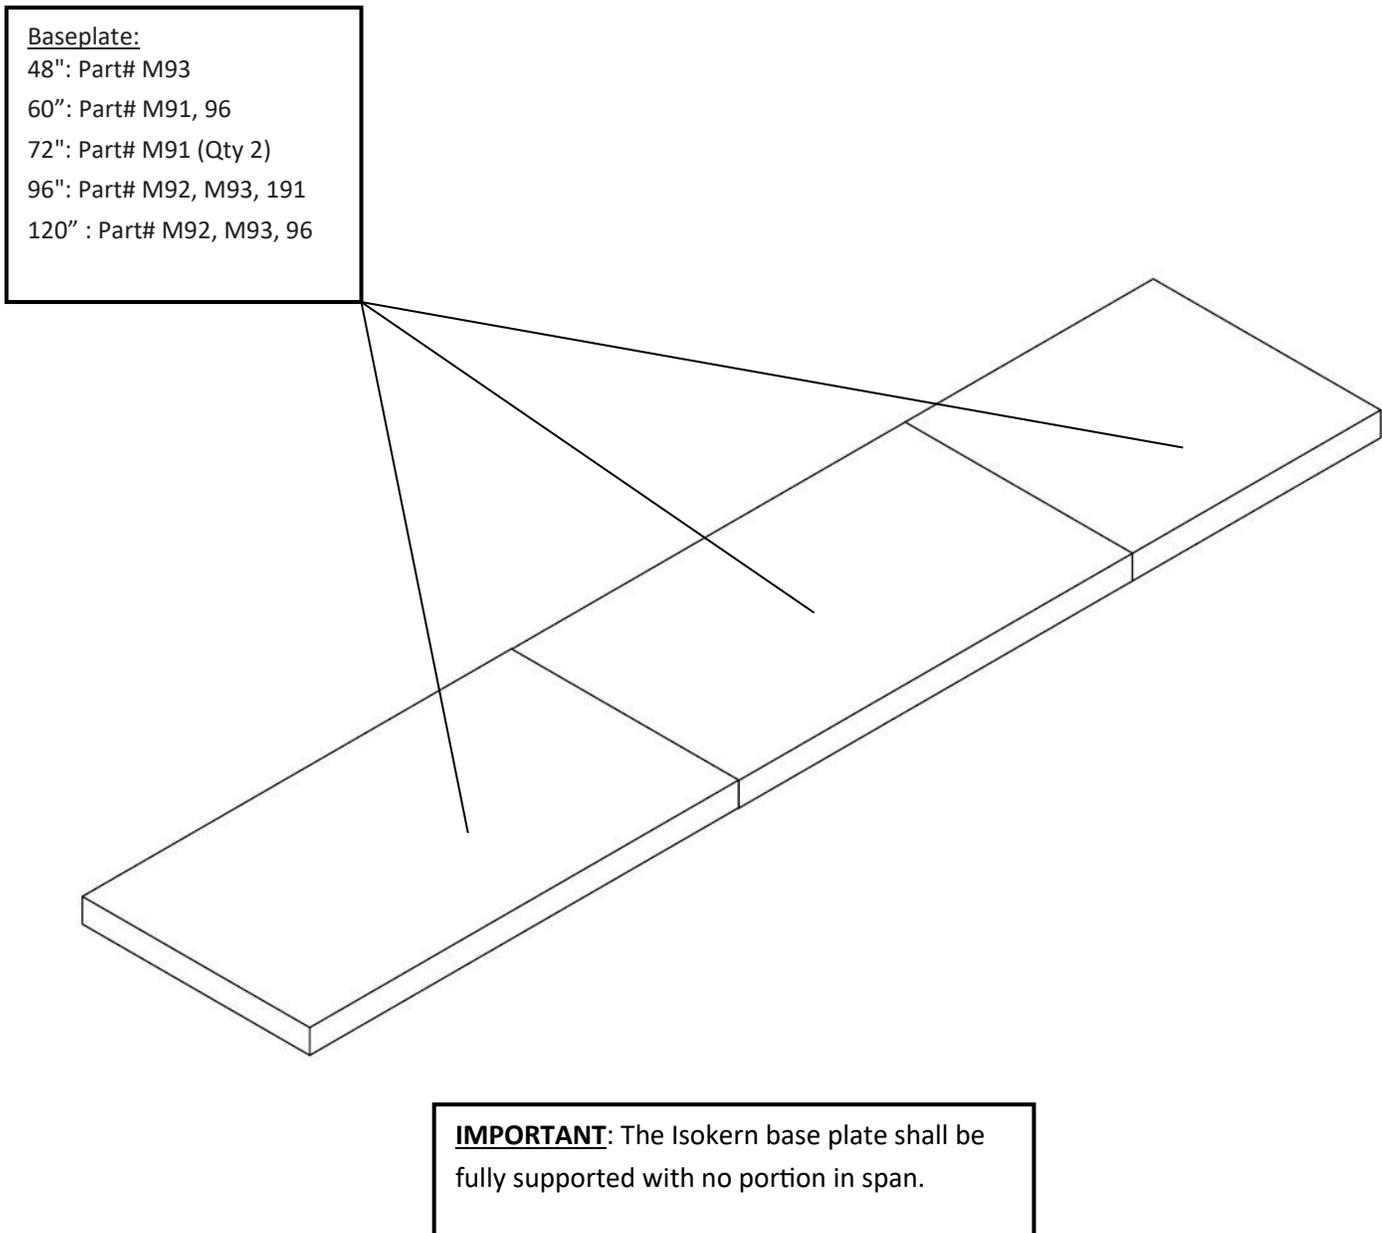

FIGURE 11
- 1) Apply Earthcore Adhesive to the joints between each baseplate part and ensure to set each base plate in a full bed of Earthcore Adhesive on a level support surface (**Figure 11**). See page 17 for information regarding the supporting floor system. Do not set the base plate so that it is in span. Refer to pages 6-15 for part and assembled firebox dimensions.